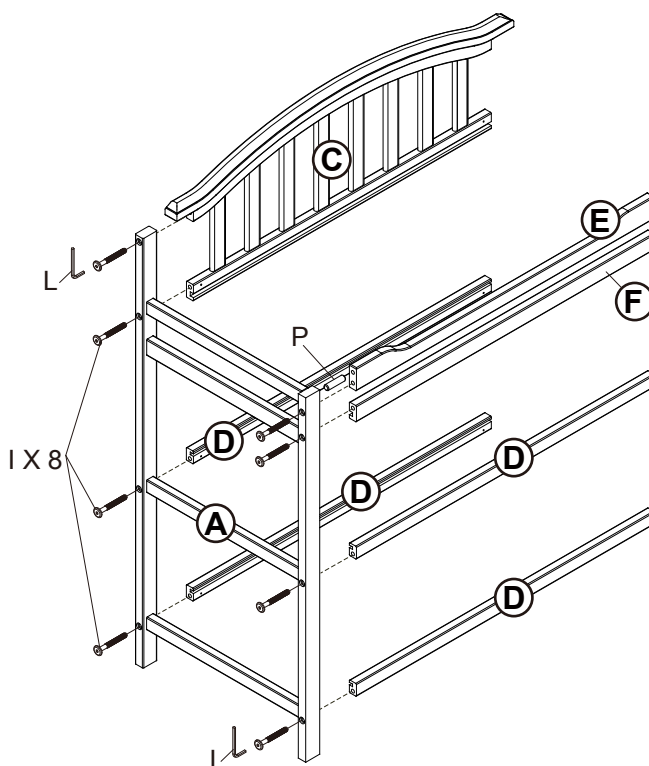

Figure 1
Step 1 Connect Rails to Left Frame using 8 Bolts(I)&1 Wood dowel (P) as Figure 1 shows.